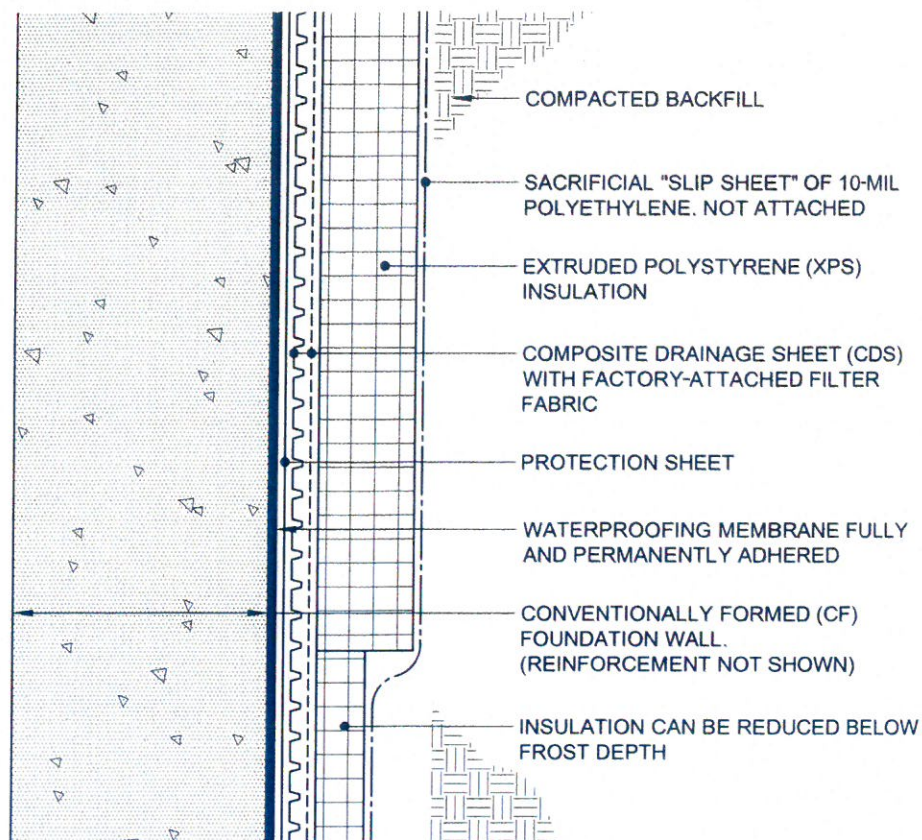

Figure 3 – Conventionally formed (CF) foundation.
It is not the intent of this article to indict all ICF walls, since the advantages bring genuine value to above-grade ICF walls. However, since all of those same advantages listed above can be true of any below-grade cast-in-place wall—whether ICF or conventionally formed (CF)—the balance of this article will be a comparison of those two types of forming methods with respect to long-term waterproofing performance only. See Figure 3 for typical CF foundation construction.
has a relatively soft compression strength of 10-60 psi. This increases the likelihood of punctures through the waterproofing by rocks and other objects during the backfilling and compaction operations. The likelihood of this damage is increased by the fact that most of the ICF manufacturers researched did not require any protection course over the waterproofing. This would not be the case with a CF foundation, because the waterproofing is applied directly to the concrete wall itself (Figure 3).